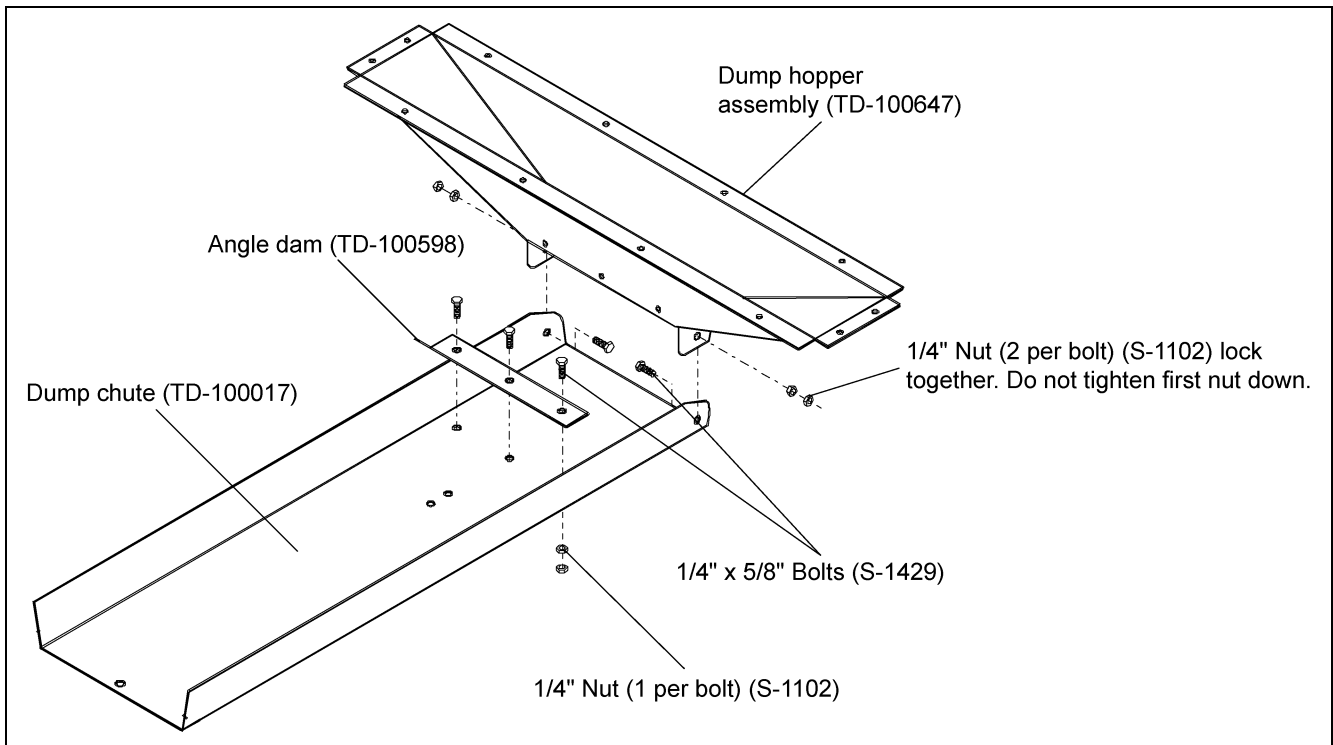

Figure 8L
Bolt an angle dam (TD-100598) to each dump chute using three (3) 1/4" x 5/8" bolts and nuts, as shown in Figure 8L. Use 1/4" x 5/8" bolts and double nuts to fasten dump chutes to hopper. **Do not tighten first nut down.** Lock second nut to first nut and **make sure chutes raise and lower FREELY.**